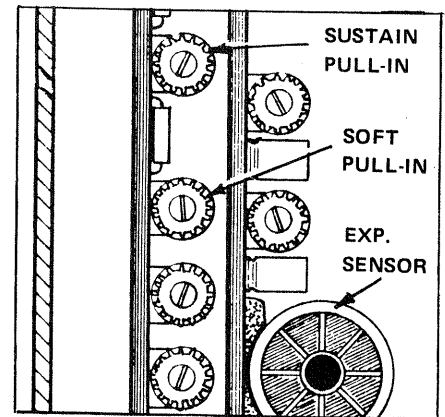

FIGURE 9-41 SOFT PULL-IN Control.
- E. Verify that the SOFT Pull-in Control (FIGURE 9-41) is set at maximum by turning the Control fully CLOCKWISE. This adjustment supplies the Solenoid with maximum power. If the Solenoid works, proceed to Point F. If the Solenoid does NOT work, refer to SECTION 10, TROUBLE ANALYSIS, for system repair procedures.
- I. If the Solenoid creates noise when it actuates (and may throw the Hammers against the Strings), the SOFT Pull-in Control may be set too high. (See FIGURE 9-41, on page 144) To adjust the control, turn it SLOWLY COUNTERCLOCKWISE until the noise stops. If the Solenoid operates correctly, proceed to Point 'N' on page 146. If the Solenoid stops working or its operation becomes erratic, proceed to Point 'J', (REFER TO THE ABOVE CAUTION).